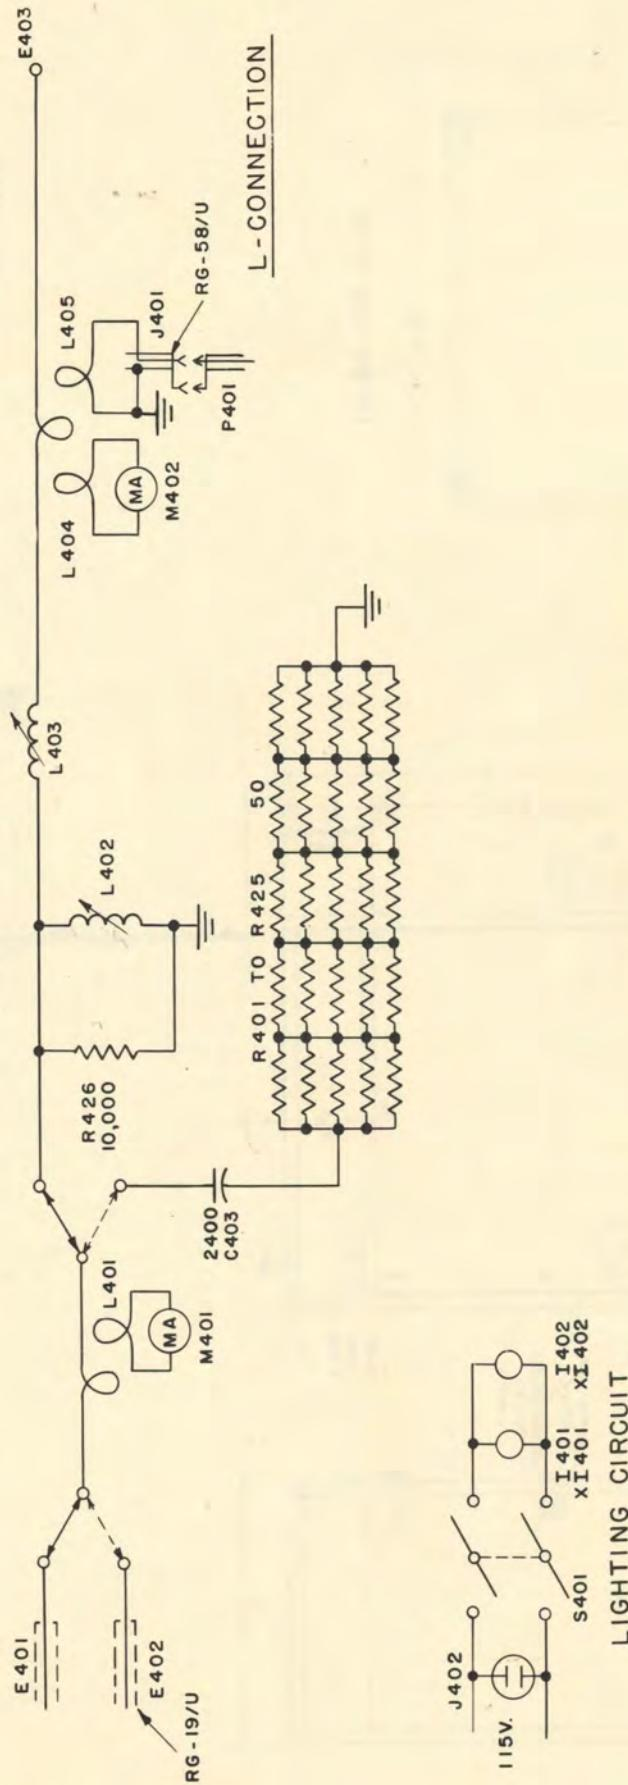

Figure 2-2. Schematic Diagram for k -Connection.
(2) **L-CONNECTION.**—The schematic diagram of the L-connection is shown in figure 2-2. The network consists of L403 in series with the antenna to ground and L402, which shunts this combination. By adjusting L402 and L403 the entire circuit can be tuned to parallel resonance. If the ratio of L402 to L403 is properly adjusted, the low antenna resistance can be stepped up to 52 ohms across the input line.